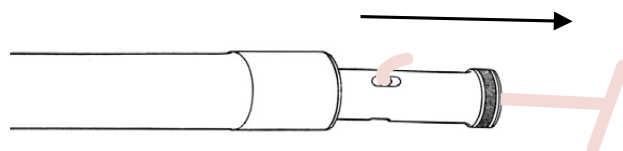

Figure 8-4. Access the Striker with a Hook.
5. Remove the Striker (2) from the Body/Anvil (1):
- a. If it is unsafe or impractical to lift the Body/Anvil and Striker, use a long hook to pull the Striker out of the Body/Anvil about six to eight inches as shown in Figure 8-4. Otherwise, perform step b.